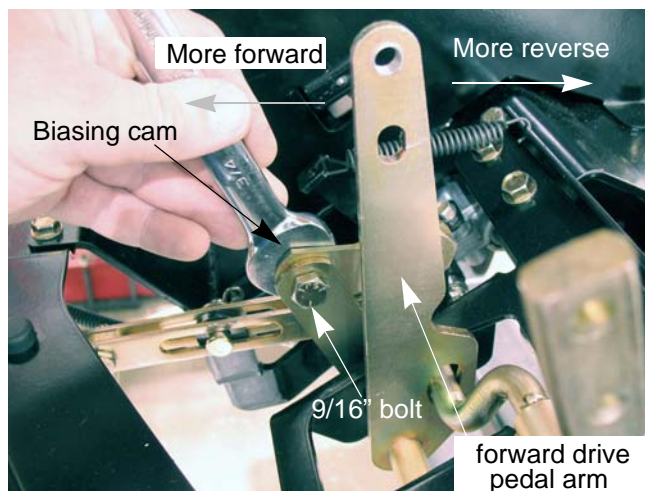

Figure 5.24
4. Rotate the cam using a 3/4" wrench while watching the forward drive pedal arm. See Figure 5.24.